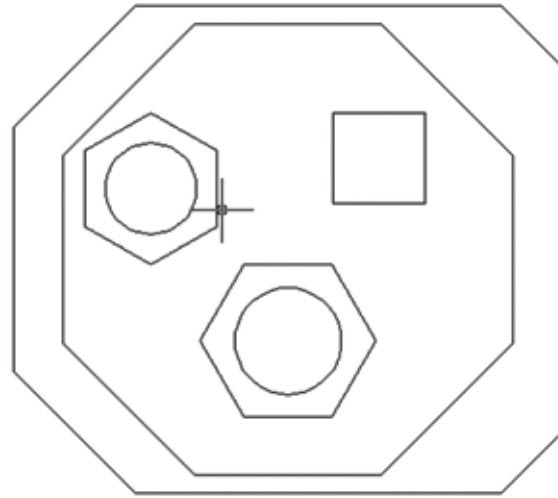

Figure 11.9
- Your drawing should now look like Figure 11.9.